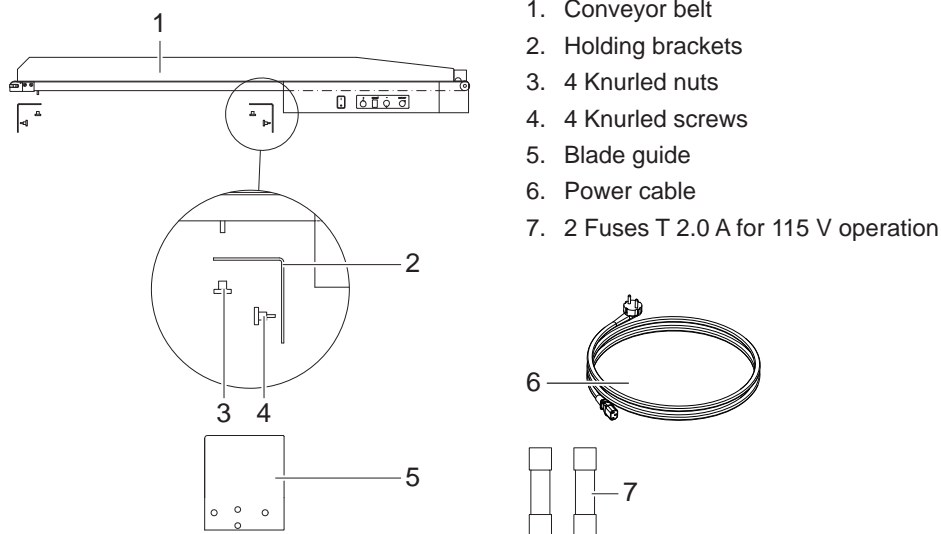
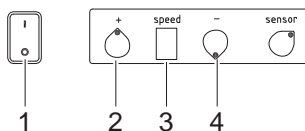

Fig. 2 Overview
Fig. 5 Conveyor speed
- ▶ To operate the conveyor with a voltage of 115 V the setting on the power module has to be changed. The fuses have to be replaced by the 2A fuses (Fig. 2 - 7) included in the contents of delivery.
- ▶ Connect the plug (2) of the MAESTRO 4M / MAESTRO 4S to the power module (5) of the conveyor with the connecting cable (Fig. 2 - 6) included in the contents of delivery.
- ▶ Put the foot switch cable of the MAESTRO 4M / MAESTRO 4S into the input socket (3) of the conveyor belt (rear side of the machine). Then connect the switching cable (4) which is also located on the rear side of the conveyor to the input socket (1) of the MAESTRO 4M / MAESTRO 4S.
- ▶ Switch on the MAESTRO 4M / MAESTRO 4S and start the conveyor belt by operating the yellow switch (Fig. 5 - 1).